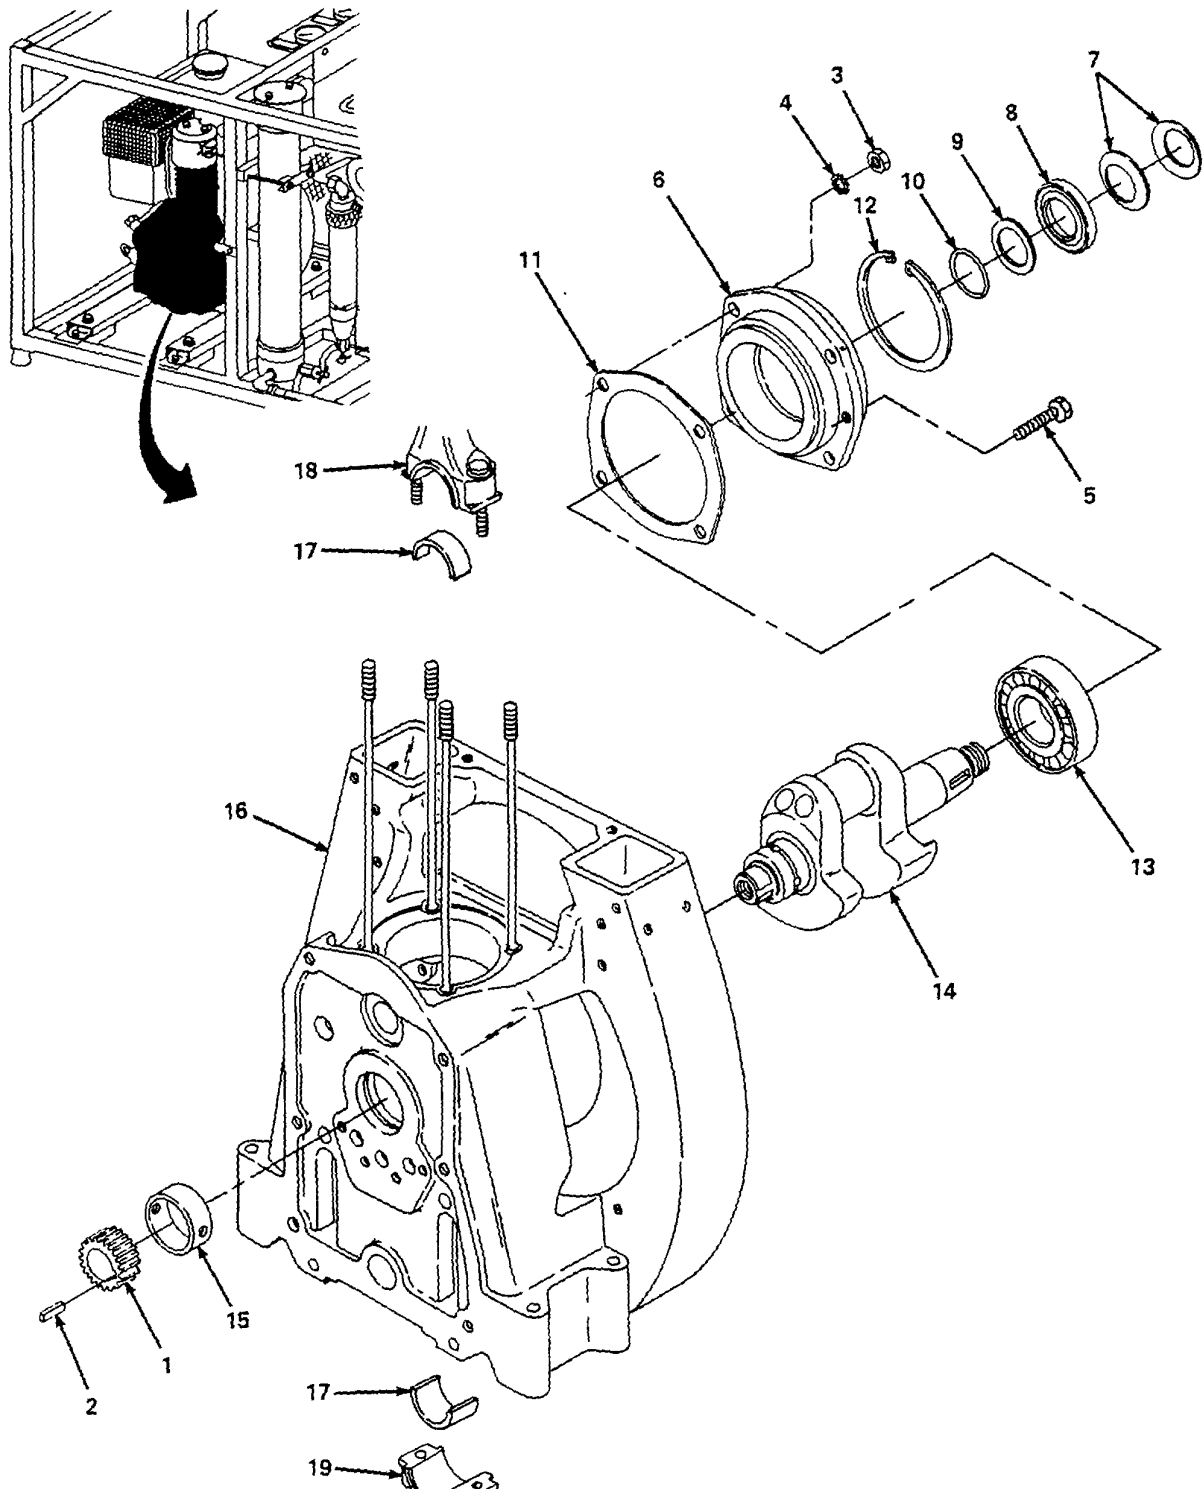

Figure 6-21. Crankshaft, Replace.
*a. Replace.* (figure 6-21)
- (1) Using puller, remove gear (1).
- (2) Remove key (2).
- (3) Remove four nuts (3) and washers (4).
- (4) Screw two screws (5) into threaded holes in bearing carrier (6) and tighten screws (5) evenly until carrier (6) breaks free and remove screws (5).
- (5) Remove carrier (6), two belleville washers (7), oil seal (8), preformed packing retainer (9), preformed packing (10), and gasket (11). Discard preformed packing (10) and gasket (11).
- (6) Remove retaining ring (12) and remove bearing (13) from carrier (6). Discard retaining ring (12).
- (7) Remove crankshaft (14).
- (8) Press bushing (15) out of crankcase (16).
- (9) Remove connecting rod bearings (17) from connecting rod (18) and bearing cap (19).
- (10) Install new connecting rod bearings (17) in connecting rod (18) and bearing cap (19).